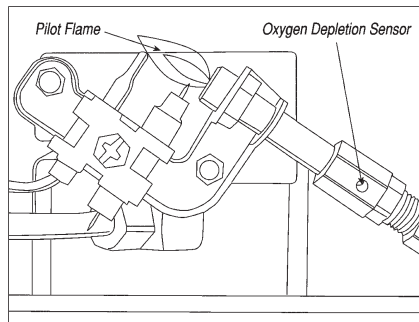

Figure 5
extend beyond the thermocouple. The flame will surround the thermocouple just below the tip, see Figure 5.
- 8 Inspect and clean pilot (mounted to bracket) by using a vacuum or apply air pressure through the holes in the pilot indicated by the arrows in Figure 5.